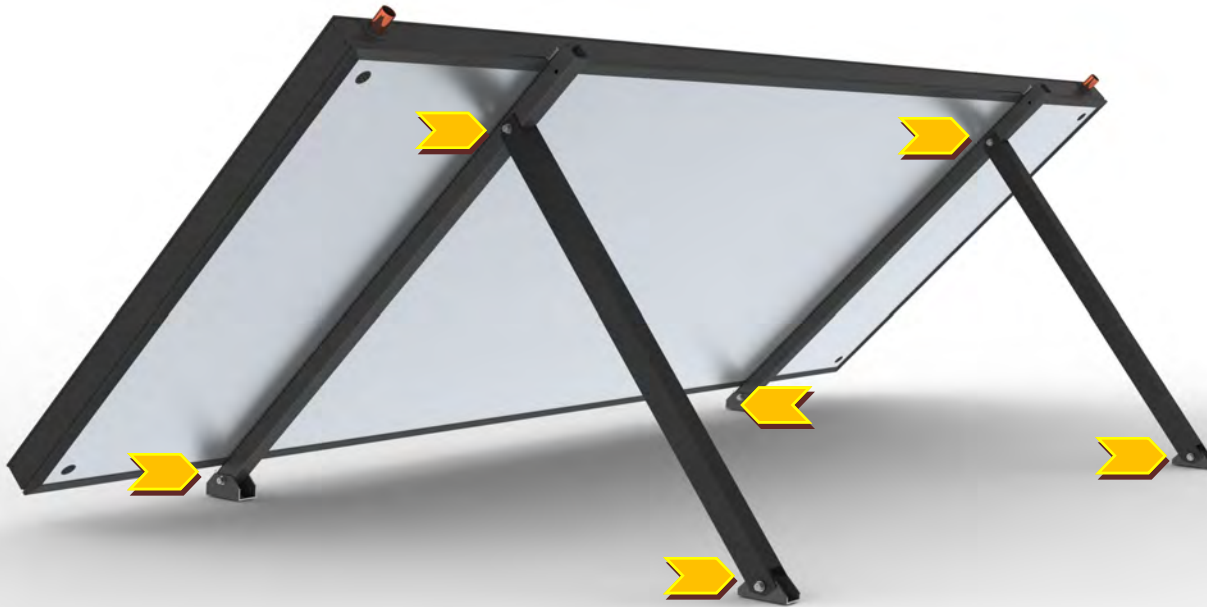

Figure 7
3. Torque all six (6) mounting hardware assemblies to 12 ft*lbs (16 N*m). As shown in *Figure 7*